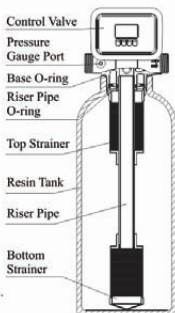

Figure 1-1
b. As the Figure 1-1 shows, insert the riser pipe to the bottom strainer, glue the connection part, and put it into the bottom tank, cut off the exceeding pipe out of tank top opening. Plug the riser pipe in case of mineral entering.